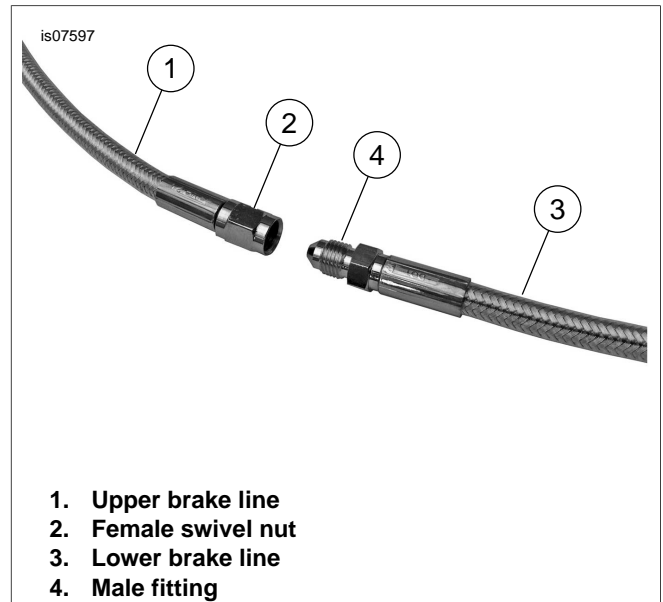

Figure 3. Upper to Lower Brake Line Fittings
11. See Figure 3. Using two 7/16 inch open-end wrenches, tighten the swivel nut (2) past finger-tight by 45 degrees (1/8 turn) relative to the male fitting (4) or tighten to 45-65 **in-lbs** (5.1-7.3 Nm).
11. See Figure 3. Position the upper brake line female fitting swivel nut (2) to the male fitting (4) on the lower brake line.